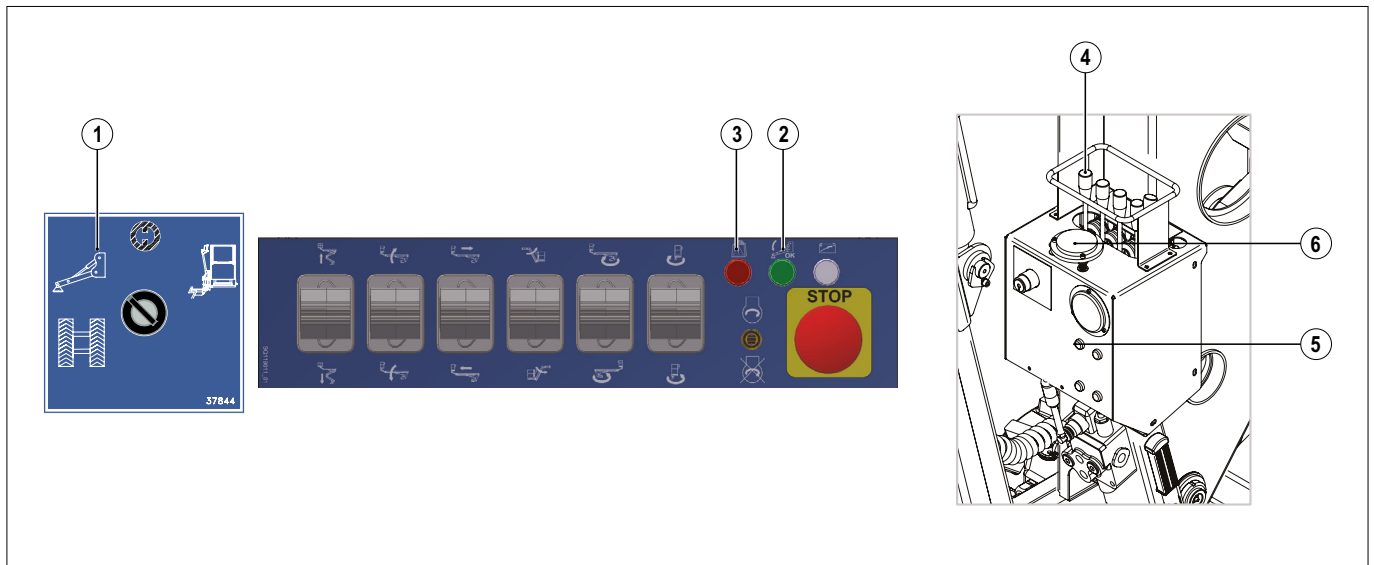

FIG. 34 (Stabilising the elevating work platform - MEWP)
- 1) Make sure that all the stabiliser indicator lights are illuminated (FIG. 34 - Ref. 5)
- 2) Retract the stabilisers by moving the levers upwards one by one (FIG. 34 - Ref. 4);
- 3) Make sure that the stabiliser indicator lights turn off (FIG. 34 - Ref. 5)
- 4) Turn the selector switch (**FIG. 34 - Ref. 1**) to the "Emergency controls" position.
- 11) Rotate both 90° two-position diverter valves to the levelling position (**FIG. 34 - Ref. C**).